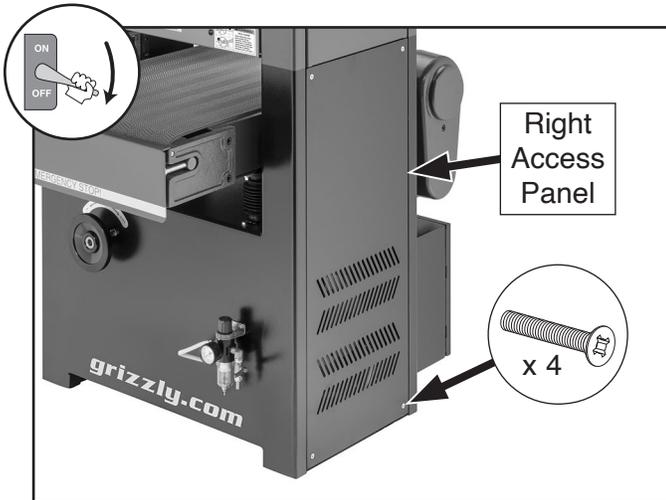

Figure 68. Location of right access panel and screws.
2. Remove (4) screws shown in **Figure 68** to remove right access panel.